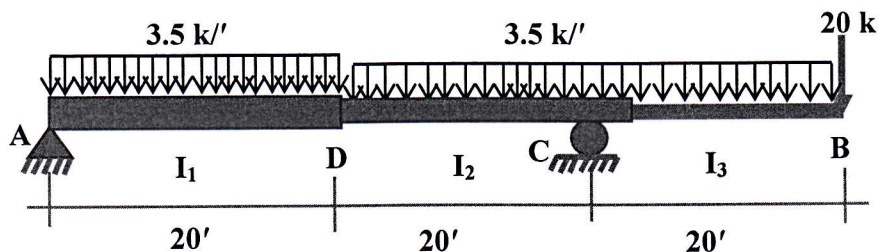

Figure 5
- [5] Calculate the **rotation (counter clockwise) and vertical (upward) deflection at point B** of the beam shown in Figure 5 by using the Virtual Work Method. Consider,  $E = 29 \times 10^3$  ksi,  $I_1 = 5000$  in4,  $I_2 = 2500$  in4,  $I_3 = 1250$  in4.